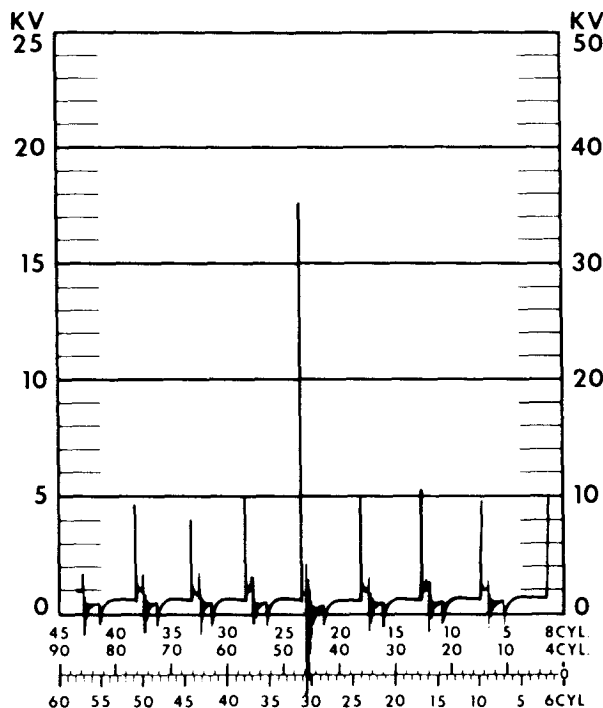

FIGURE 18—Maximum available coil output voltage.
7. Note and record maximum rise of waveform on 50 KV scale (Figure 18).